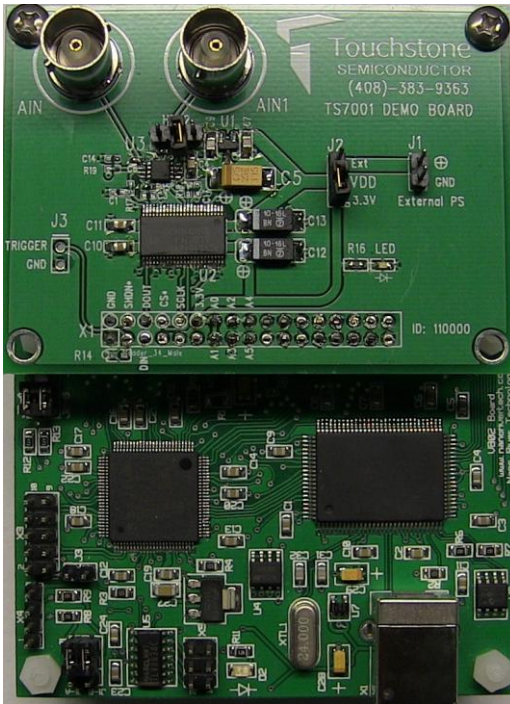
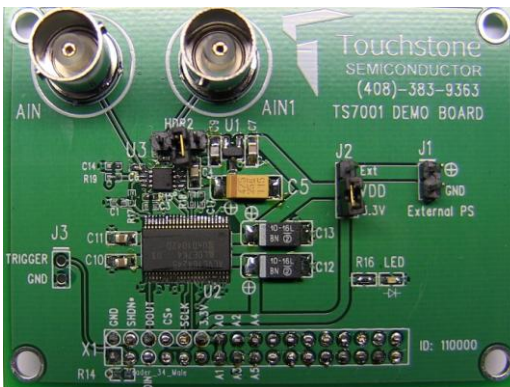
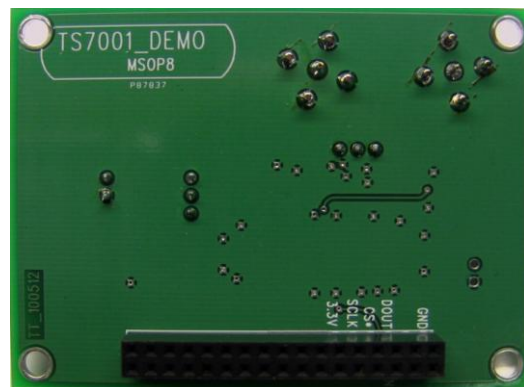
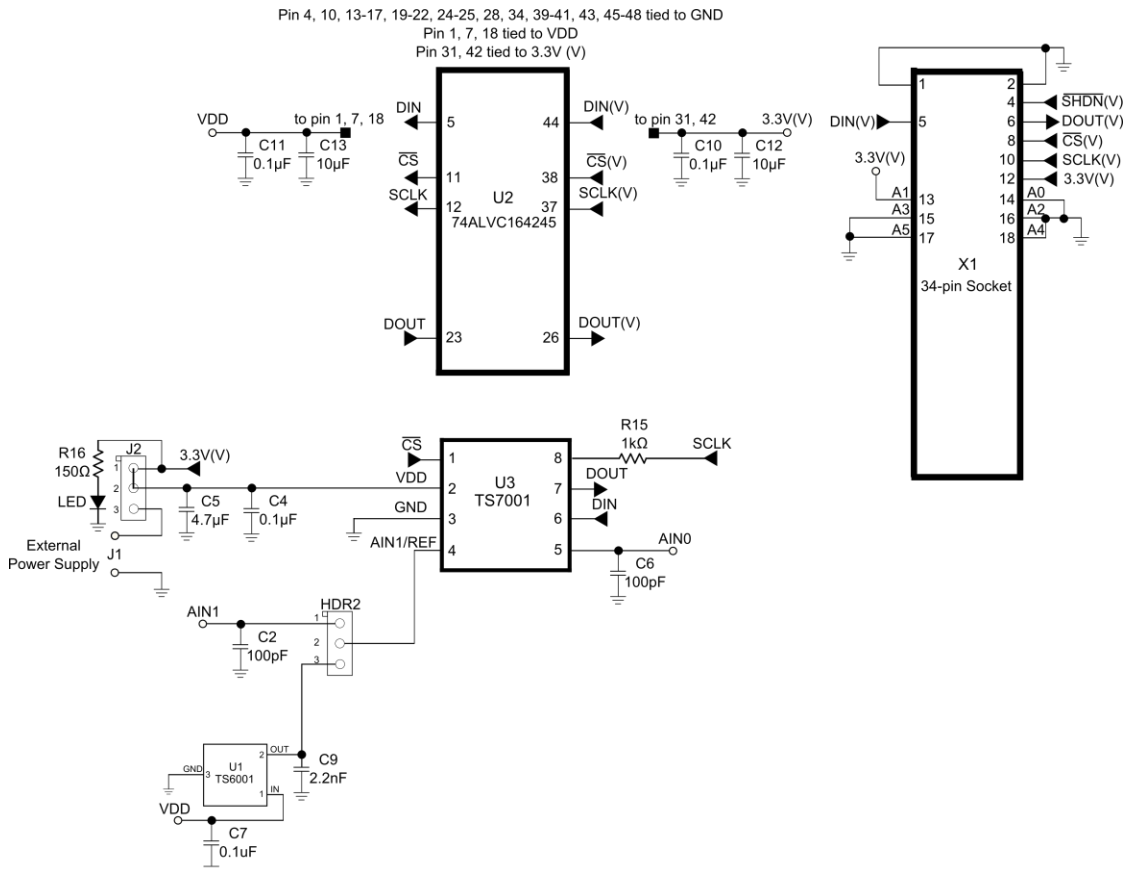

Figure 1. TS7001 Evaluation Board with Viperboard
Figure 2. TS7001 Evaluation Board (Top View)
Figure 3. TS7001 Evaluation Board (Bottom View)
Figure 5. TS7001 Evaluation Board Circuit
Figure 5 shows the TS7001 demo board schematic, Figure 2 and Figure 3 show a picture of the top and bottom of the TS7001 demo board, respectively. Figure 1 shows a picture of the TS7001 demo board with the viperboard connected.
In order to evaluate the TS7001, jumper J2 is to be set to position 2-3 and jumper HDR2 is to be left unconnected. The default configuration for J2 and HDR2 is 1-2 and unconnected, respectively. Refer to Figure 5 and Table 1. The default configuration on the board is for  $V_{DD} = +3.3V$ . For this evaluation, we will use an external +3.6V power supply and an external +3.6V reference voltage. The following steps are to be performed:
- 1) Set the voltage of the power supply between +2.7V and +3.6V and turn it off. Connect the positive terminal of the DC power supply to pin 12 labeled as "3.3V" on X1, and the ground terminal to pin 2 labeled as "GND". Refer to Figure 5.
- 3) To measure the supply current of the TS7001, place jumper J2 to position 2-3. Then, apply an external power supply to J1. An ammeter can now be connected in series with the power supply for a static supply current measurement of the TS7001. The supply current should be less than 900 $\mu$ A. Please refer to Figure 5 and table 1.